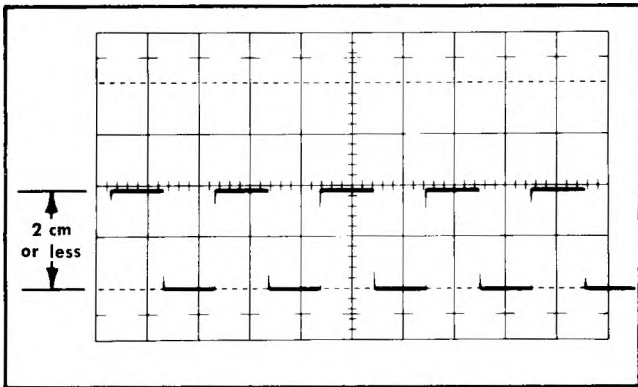

Fig. 5-2. Checking the VARIABLE control 2.5:1 ratio. This display is within the 2-cm maximum amplitude requirement.
c. Check—Maximum deflection of 2 cm or less (2.5:1 range, see Fig. 5-2).